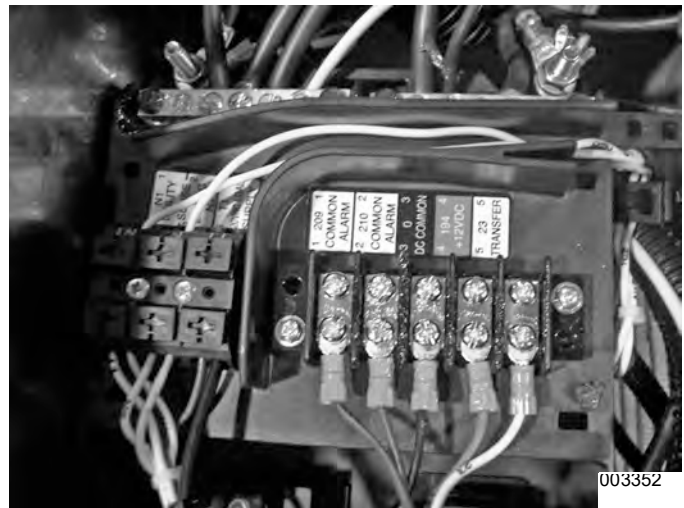

Figure 5-6.
5. **Remove Control Wires:** See Figure 5-6. Remove Wires N1, N2, T1, 0, 194, 23, GFCI Outlet, and unit status lights from the control box.